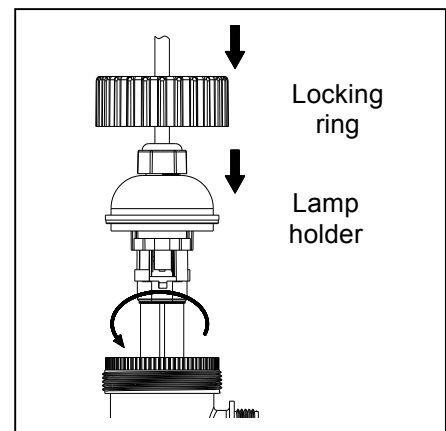

Fig. 16
- Reinstall the lamp holder and locking ring. Fig. 16